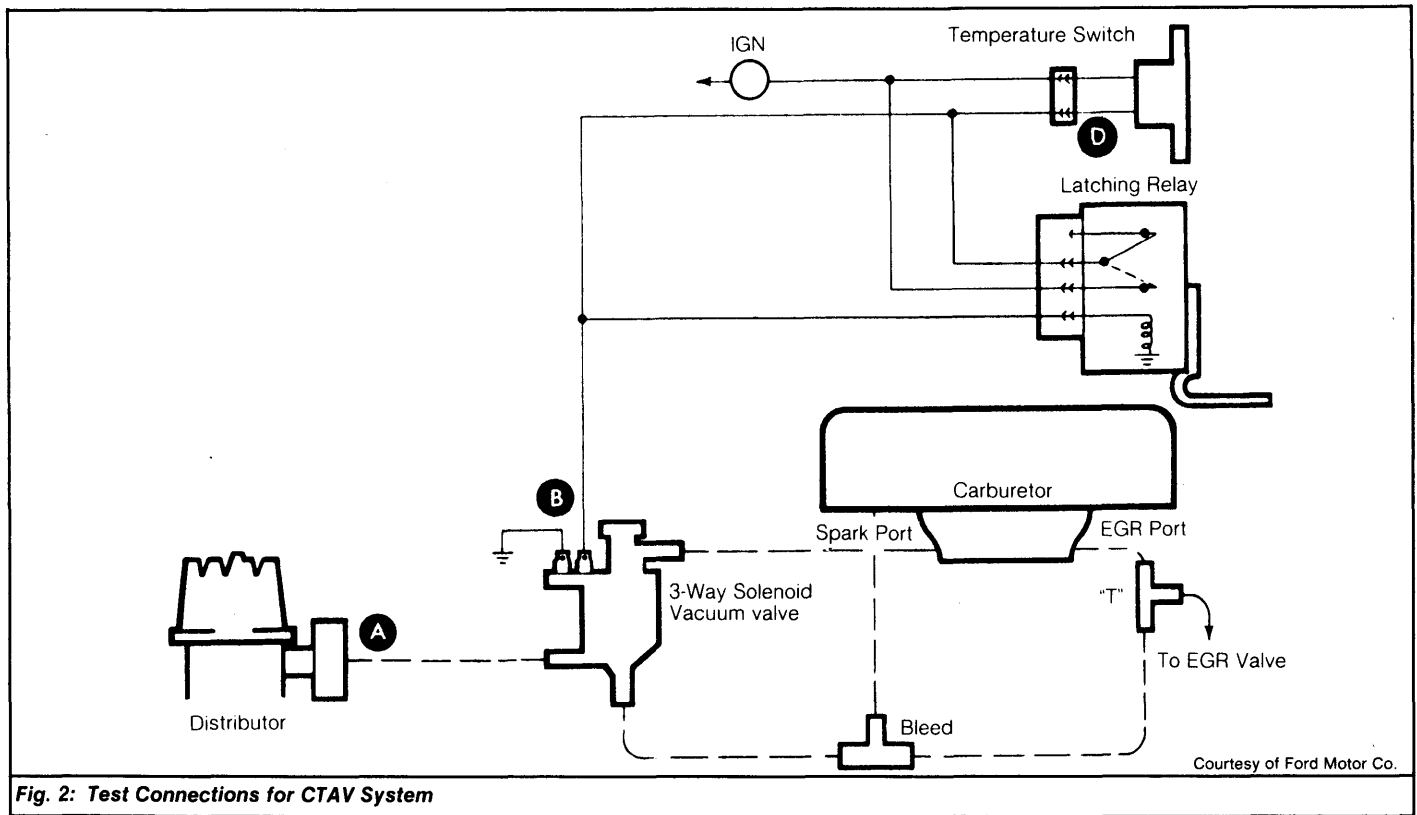

Fig. 2: Test Connections for CTAV System
- 1) Connect a tachometer to engine. Connect a vacuum gauge to hose at point "A". See Fig. 2. Ensure temperature sensing switch is over 65°F. Disconnect lead at point "B".
- 3) Connect test lead at point "B". See Fig. 2. There should be no or low vacuum. If vacuum is present, check vacuum valve ground and electrical source back to ignition switch.
- 1) Attach a grounded test light at point "B". Disconnect connector at point "D" and turn ignition on. See Fig. 2. There should be no light. If light is present, replace latch relay.